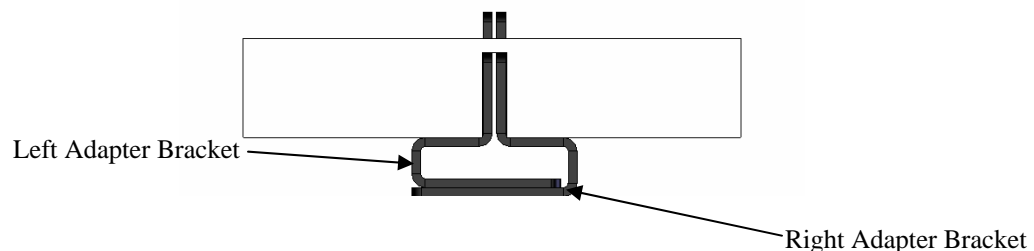

Figure 2
1. Place the right adapter bracket, tabs facing down, over the left adapter bracket, tabs facing down (see Figure 2).